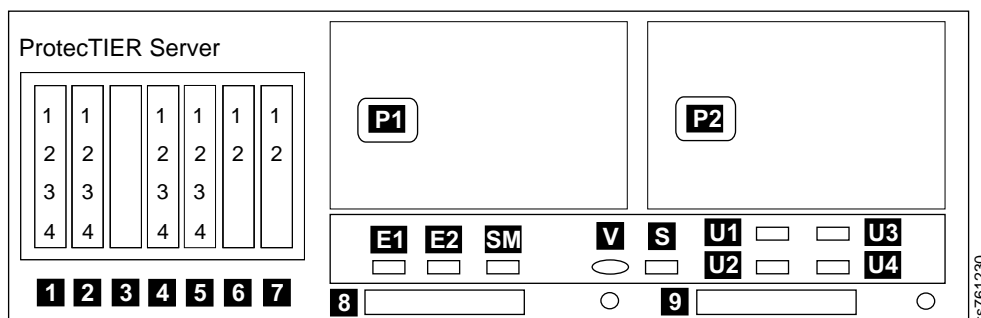

Figure 10. 3958 DD5 server rear view with FSI configuration, Feature Code 3456
- If two instances of Feature Code 3456 are installed, three 1 Gb quad-port Ethernet adapters (Figure 10)